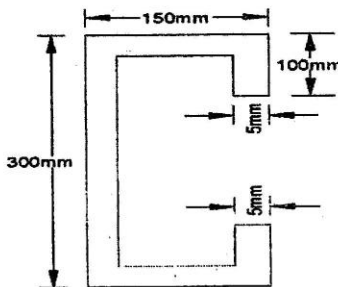

Figure-3
4. The cross section shown in figure-3 is a channel with turned ends. Locate shear centre for the section and sketch the shear flow in the section.